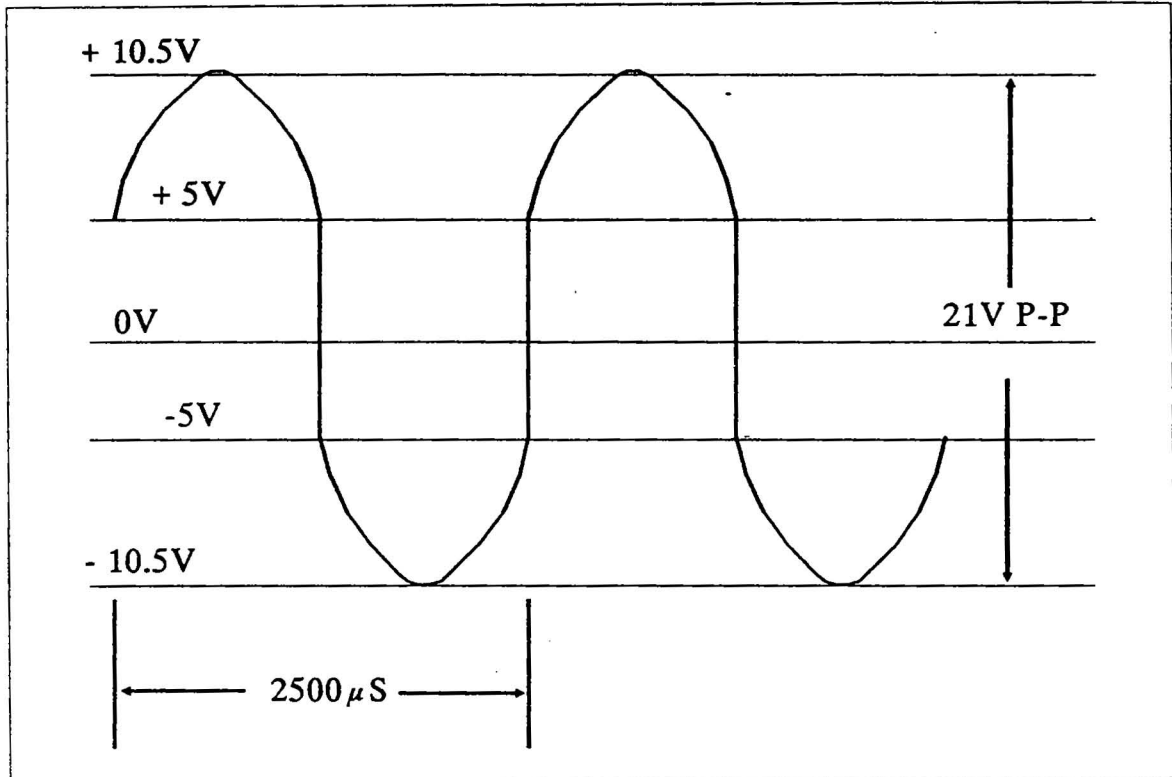

Fig. 5-1 Scan Mirror Drive Signal
2. Power ON the Surfscan. Note the sinuosity waveform and AMPL voltage reading displayed on the DVM. Reference Fig. 5-1 shown below.
3. Measure the period of one cycle of the waveform. If it is less than 2500 μ S, increase the gain by adjusting R25 (CW) until one cycle-period measures 2500 μ S, as shown below in Fig. 5-1.